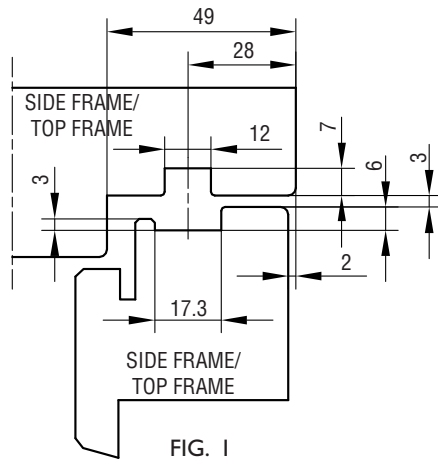

FIG. 1
- SIDE SASH & -FRAME AND TOP SASH & -FRAME ARE MADE WITH THROUGH-GOING GROOVES, SEE FIGURE 1.